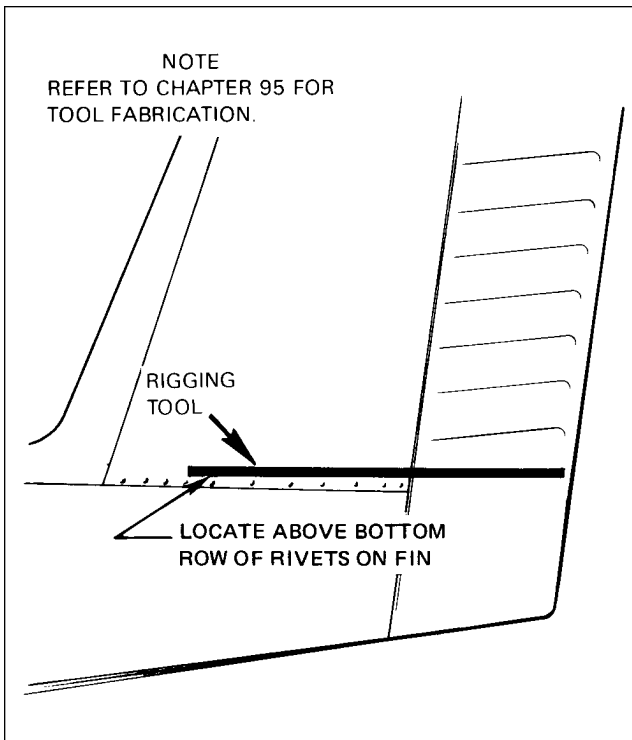
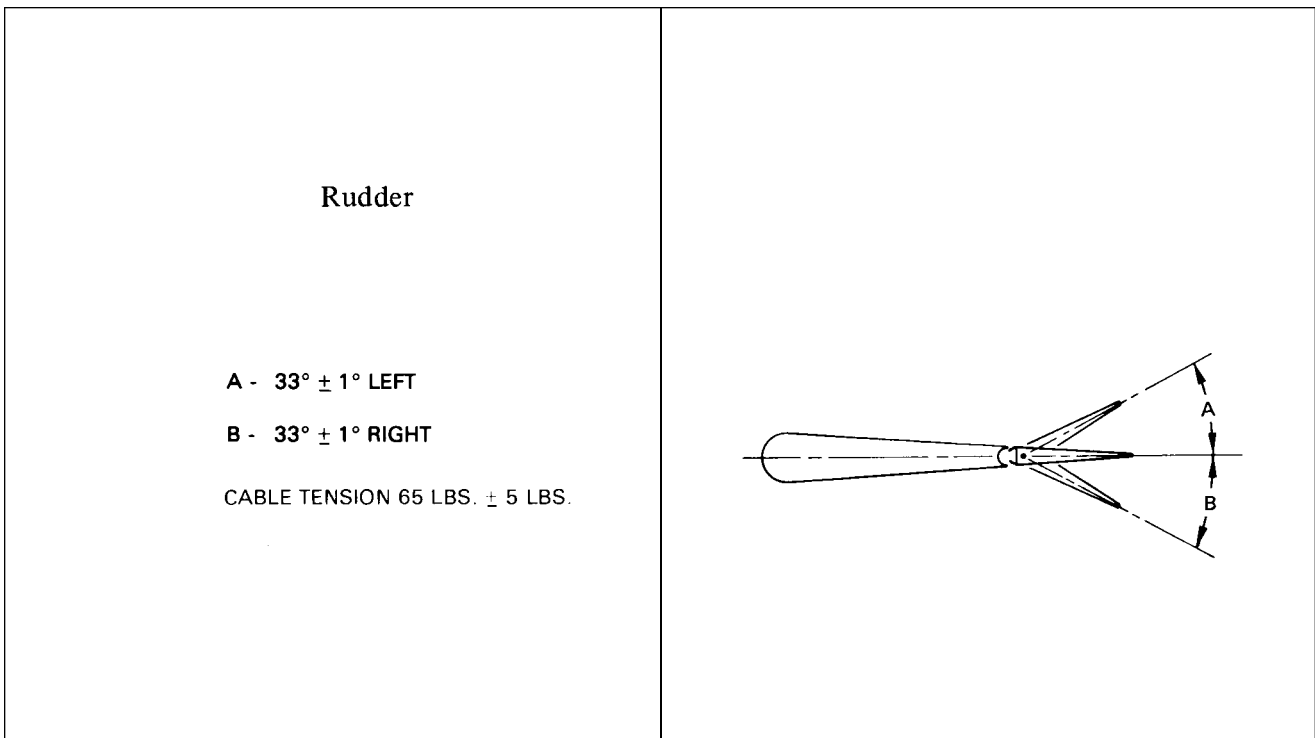

Figure 27-9. Rudder Rigging Tool
Figure 27-11. Rudder Rigging
- B. With the rudder against its stop, place a rigging tool against the side of the rudder and vertical stabilizer as shown in Figure 27-9. (Ascertain that the tool is not contacting any rivets.) If no gap exists between the rigging tool and the surface of the rudder and vertical stabilizer, the rudder stop for one direction of travel is correct as required in Figure 27-11. (This tool may be fabricated from dimensions given in Chapter 95.)
- D. Adjust the turnbuckles in the aft section of the fuselage to obtain proper cable tension as given in Figure 27-11 and to allow the rudder to align at neutral position. Neutral position can be determined by standing behind the airplane and sighting the rudder with the vertical stabilizer or the center of the trim screw.